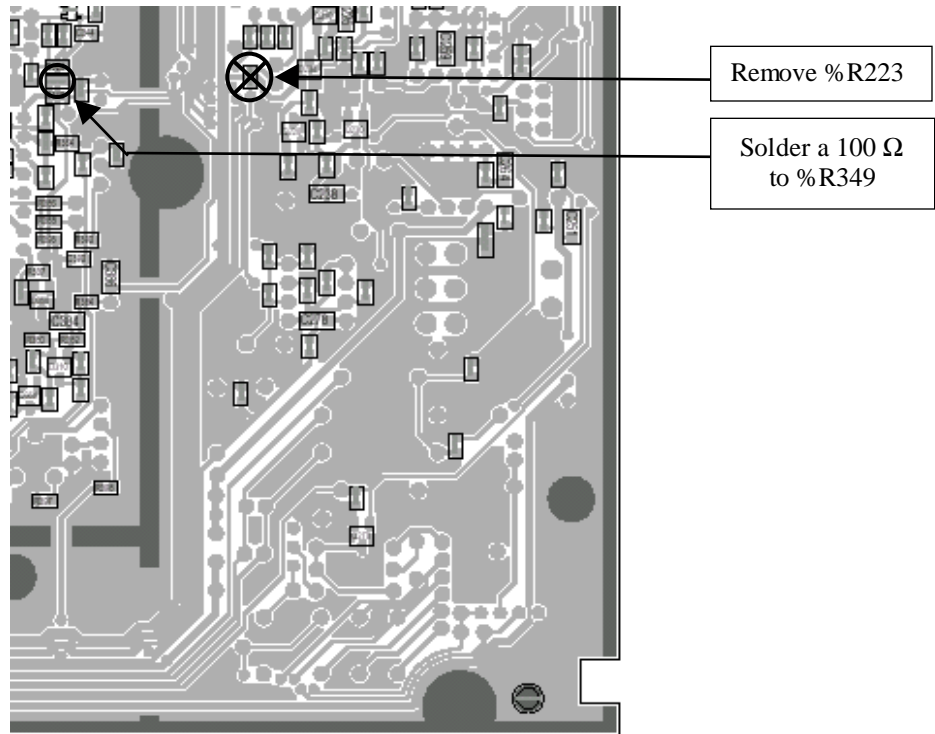

Figure 8 - T855 receiver PCB, Bottom Side 3/4
7. Remove %R223, a 10 ohm resistor (T-855 Audio Processor section). Refer to Figure 8 page 9
8. Solder a 100 ohm resistor (0805 5%) to %R349 location (T-855 I-F section). Refer to Figure 8 page 9